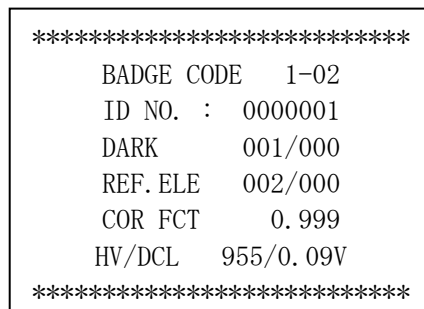

Fig. 4-1 Badge code LCD display
(7) Reference element read mode
- The dark value is read, then the reference element is read, displayed. The three digits at the left represent the P-count value, the three digits at the right, F-count. The data of (4)~(7) mode are displayed on LCD as Fig. 4-1.